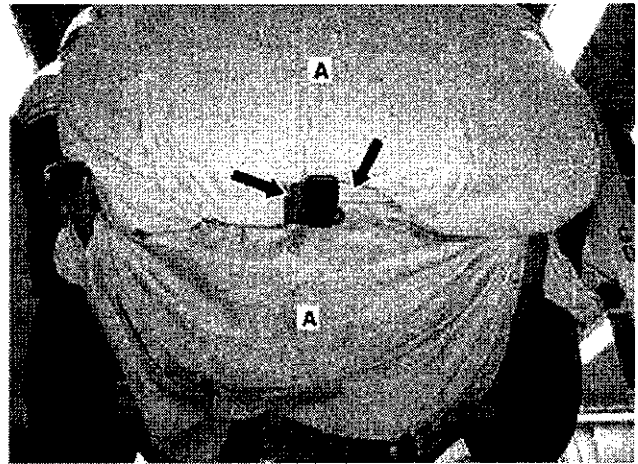

Figure 1
2. Thoroughly cover area around trailer hitch with welding blankets (A, Figure 1).
3. Cover remaining exposed area with masking tape (arrows, Figure 1).